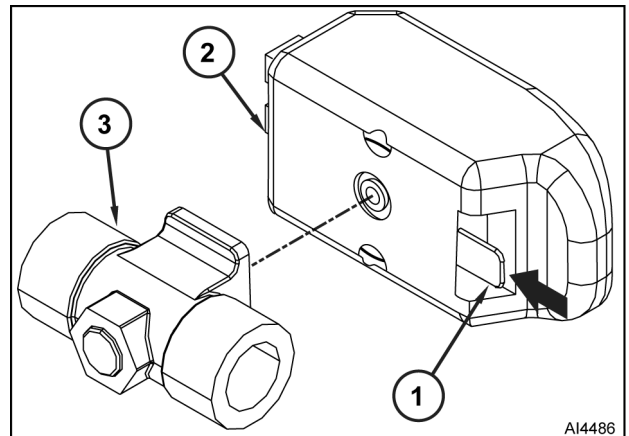

Fig. 37
- Press and hold spring catch (1, Fig. 37) then lift motorized control assembly (2, Fig. 37) off valve body (3, Fig. 37).